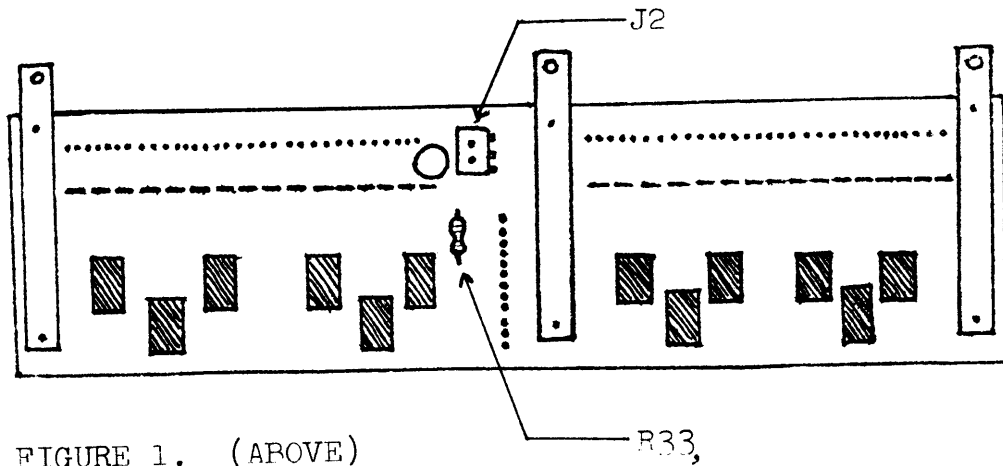
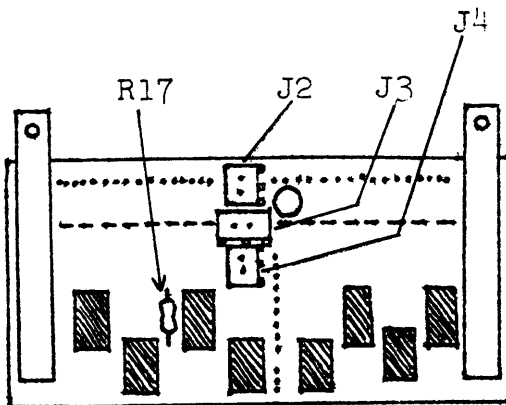

FIGURE 1. (ABOVE)
FIGURE 2. (ABOVE)
Resistor R33 is burned out on the end-driver board and resistor R17 on the center-driver board is okay. (See figure 1 to locate R33 on the end driver which is labelled on the board and see figure 2 to locate the labelled resistor R17 on the center-driver board.)
Turn power off and wait one minute. Remove the center-driver board, and examine connectors J2, J3 and J4 (see figure 2 to locate). If any of them is loose, replace the center-driver board and the defective end-driver board and retest using the short-test indicator lamp. (See page #139 of the Installation, Alignment and Field Service Manual for instructions relating to the use of the short-test indicator. If no connectors are loose, go to possible cause #2.)
3. The end driver has a defective connector labelled J2. (see figure 1 to locate the connector.)
Resistor R33 on an end-driver board is burned out and resistor R17 on the center-driver board is burned out. (See figure 1 and 2 to locate the resistors.)